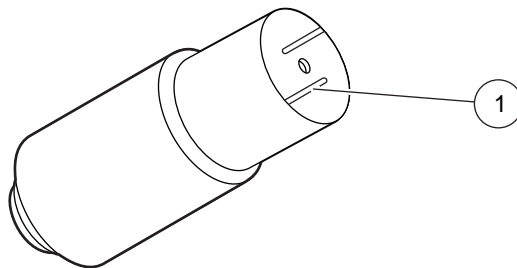
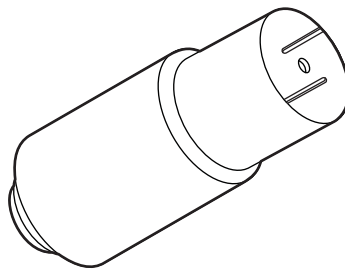

Figure 32 Removal of carbon vanes
Figure 33 After removal of carbon vanes
9. Remove the carbon vanes (refer to Figure 32 on page 34 and Figure 33 on page 34) and make sure that the rotor turns freely.